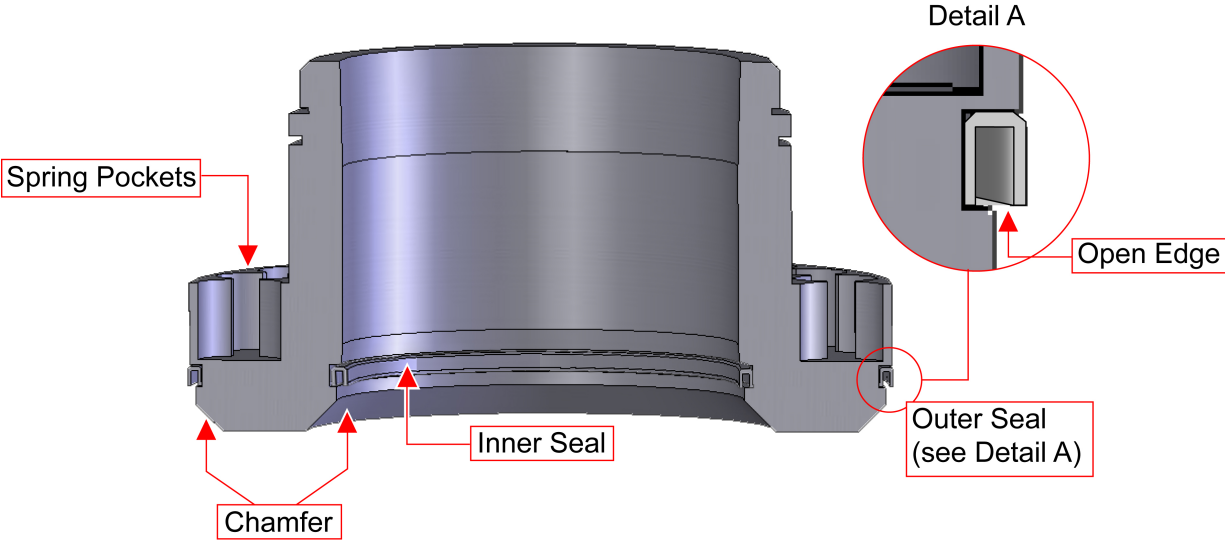

Figure 4-3: Cross-Section View of Piston Showing Seal Orientation
- Step 15: Press the new seals over the chamfer and into their respective grooves. Be sure to align the seals such that the open end (when looking at a cross section) is facing away from the collet, as shown in Figure 4-3. The direction of the seal is extremely important in sealing the piston. Make sure that the seals sit into their mounting grooves by running a fingernail around the edge. If the seal is tilted or twisted slightly its function will be severely compromised.